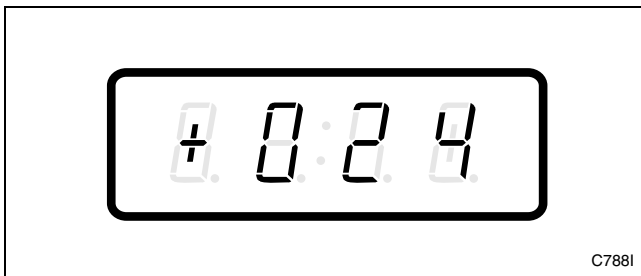

Figure 103
3. Press the DELICATES (+) or the COLD (-) keypad to scroll through the programmable options until “+024” appears in the VFD. Refer to *Figure 103*.